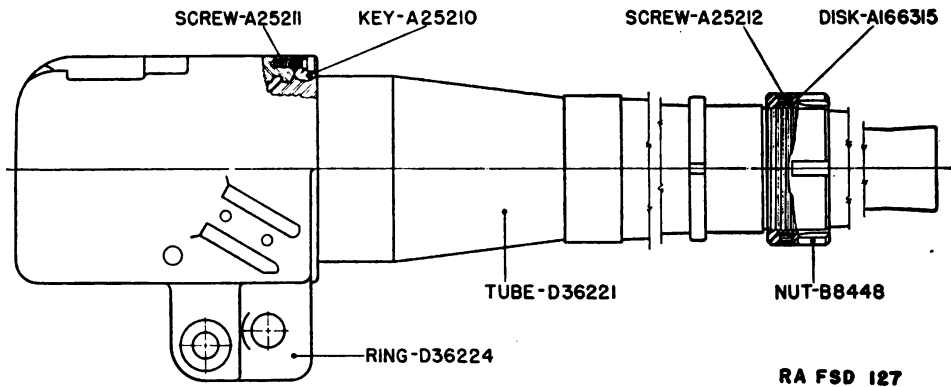

FIGURE 6.—37-mm gun, M3.
30. Removal of gun from sleigh.—Remove the set screw (A25212, fig. 6) from nut (B8448). Remove the nut with spanner wrench. Remove disk (A166315). Push the gun to the rear through the yokes of the sleigh. Remove key from front yoke of sleigh.
31. Assembly of gun to sleigh.—Push the gun through the yokes of the sleigh with key in place in front yoke. Assemble nut (B8448, fig. 6) and disk (A166315) and tighten with spanner wrench and lock with the set screw (A25212).